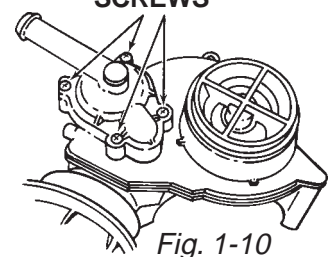

Fig. 1-10
The drain valve can be accessed by removing the four (4) T-20 Torx screws securing the drain outlet cover to the pump assembly. The drain cover seal, diaphragm and diaphragm ring can be removed and replaced. (Fig. 1-10)